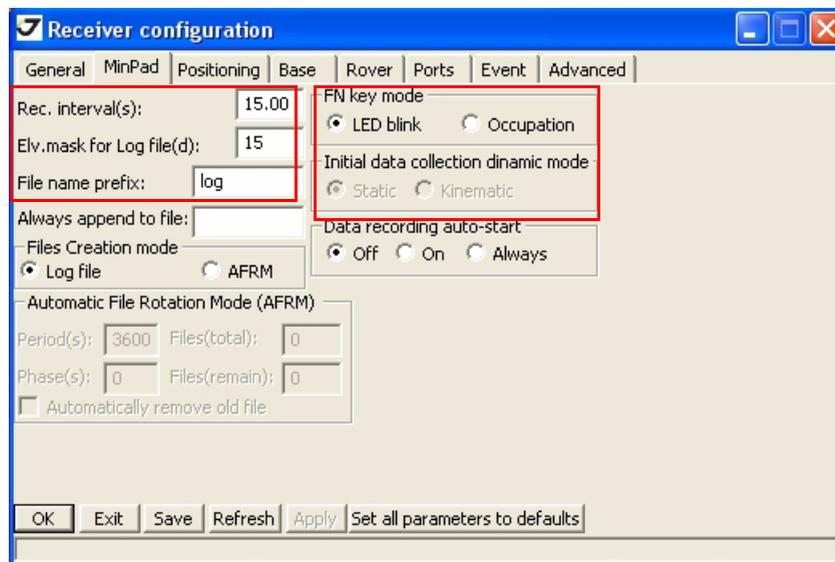

Figure 3-14. Configure Receiver Positioning – MinPad for data recording
- Click the *MinPad* tab and configure the following settings (Table 3-6), then click *Apply* (Figure 3-14 on page 56).